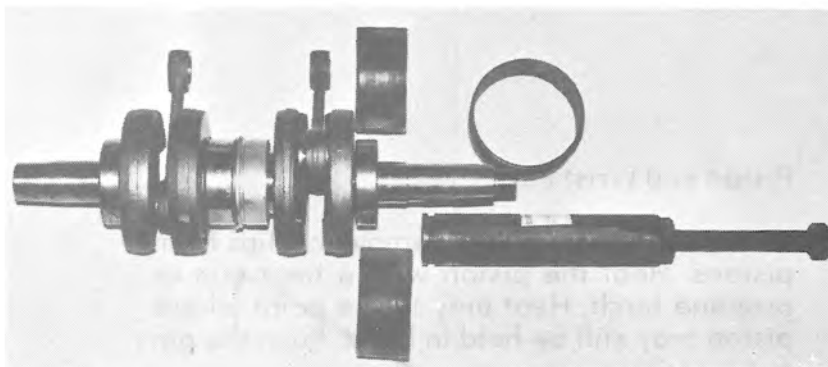

FIG. 1-23
To remove crankshaft end bearings, use bearing puller 444-31-807-0. See Figs. 1-23, 1-24, 1-25. Slip the puller half shells around the outer bearing race and around puller assembly. Slide the retaining ring over the half shells. Using two (2) 27 mm wrenches, turn the center bolt clockwise with one wrench and use the second wrench to hold the puller body. Before removing the PTO side crankshaft bearing, insert a 1/2" 20 UNF bolt, 1/2" long, to protect the internal thread of the crankshaft.